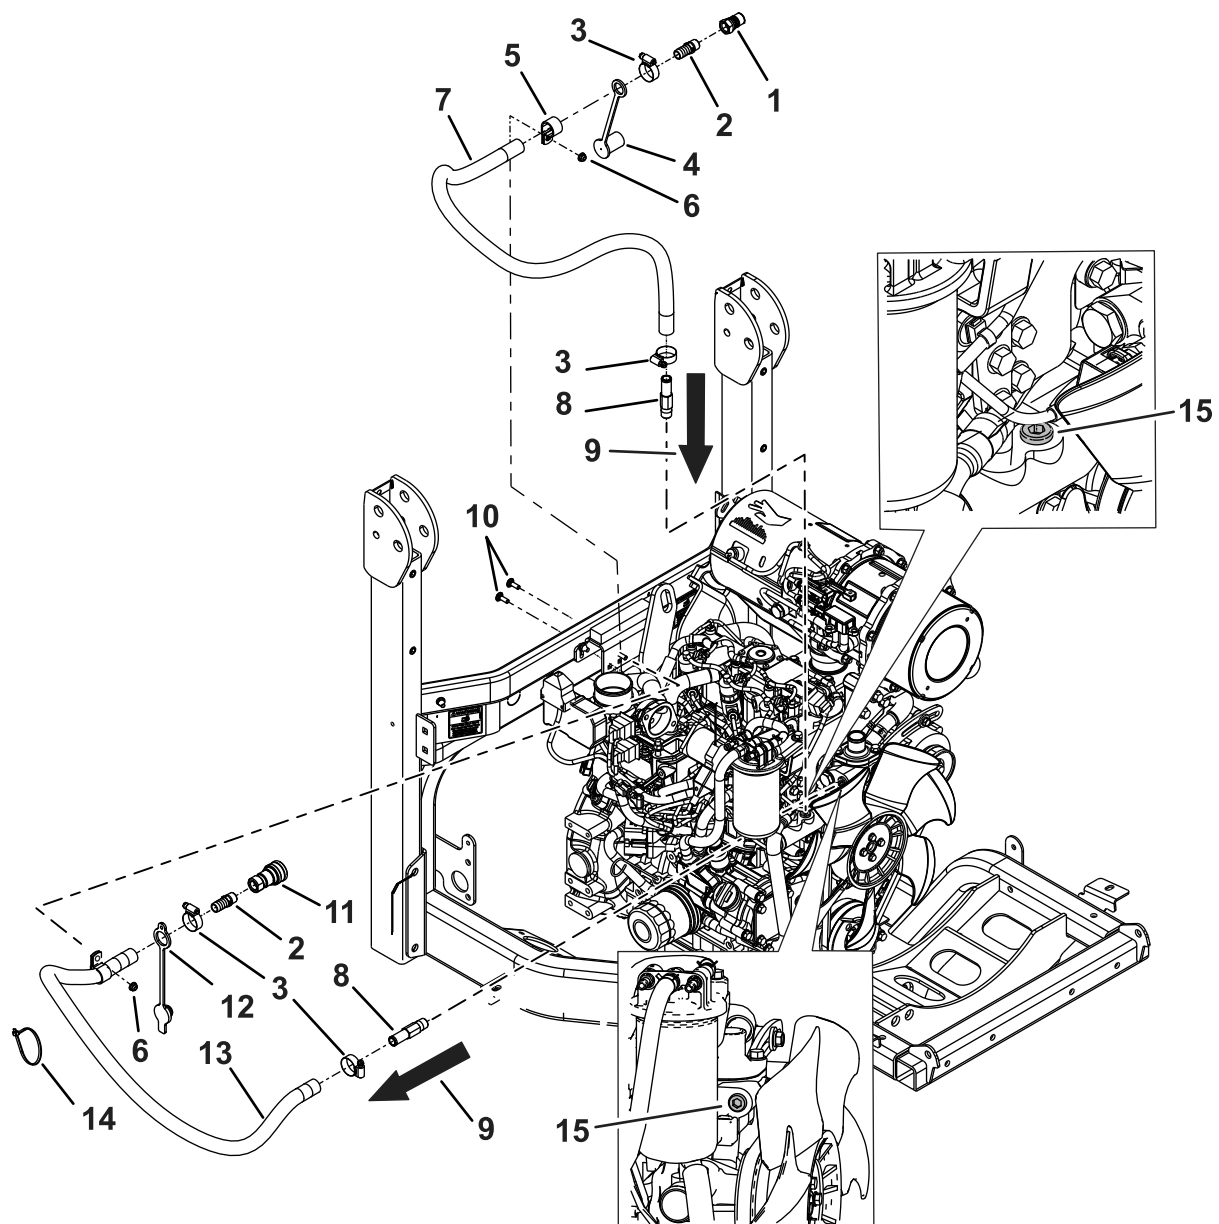
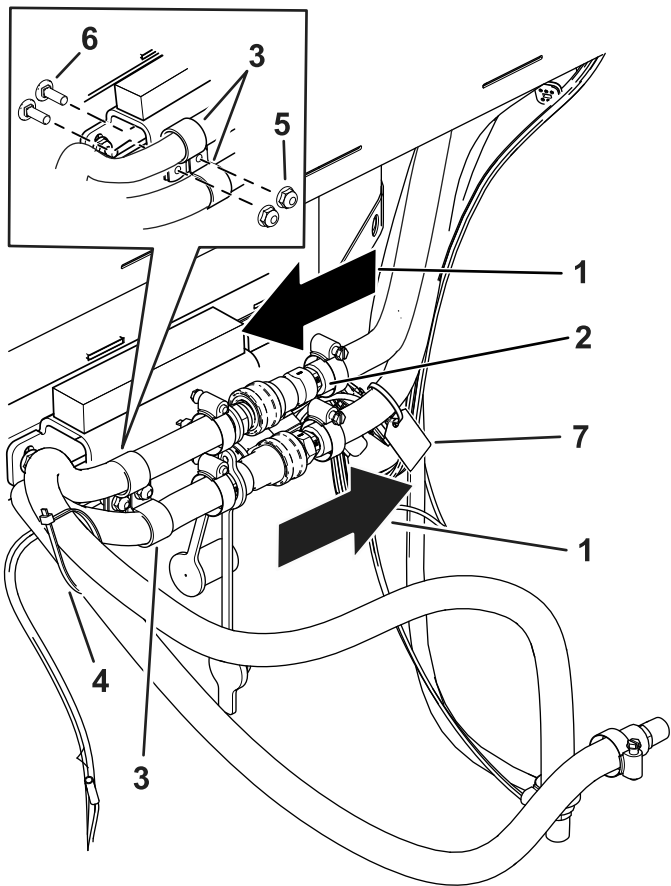

Figure 24
Figure 25
9. Locate and remove the engine plugs shown in Figure 24.
3. Slip the dust plug and dust cap over the barbed end of the assemblies (Figure 24).
4. Thread the straight fittings (3/8 NPT x 5/8 barb) into the male and female couplers (Figure 24).
6. Insert the barbed end of the assemblies into the hoses and secure them with the hose clamps (Figure 24).
| 10. Apply pipe sealant to the threads on the engine fittings. | 15. Install the R-clamps around the hoses (Figure 24). |
| 11. Manually secure the engine fittings into the ports until they are finger-tight. | 16. Secure the hoses to the back of the cab with 2 carriage bolts and 2 nuts (Figure 24 and Figure 25). |
| 14. Insert the hoses over the barb ends of the engine fittings and secure them with the hose clamps (Figure 24). | |
17. Secure the hoses away from moving parts and hot surfaces with cable ties (Figure 25).